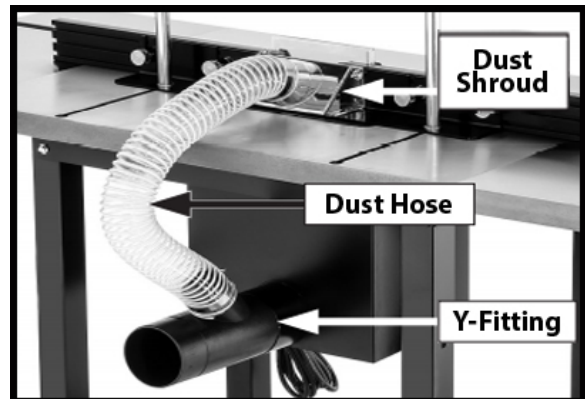

Figure 32
20. Attach the 2-1/2" dust hose on the dust shroud and connect to the Y-Dust Fitting. Secure with the 2-1/2" hose clamps supplied. (See Fig.32).